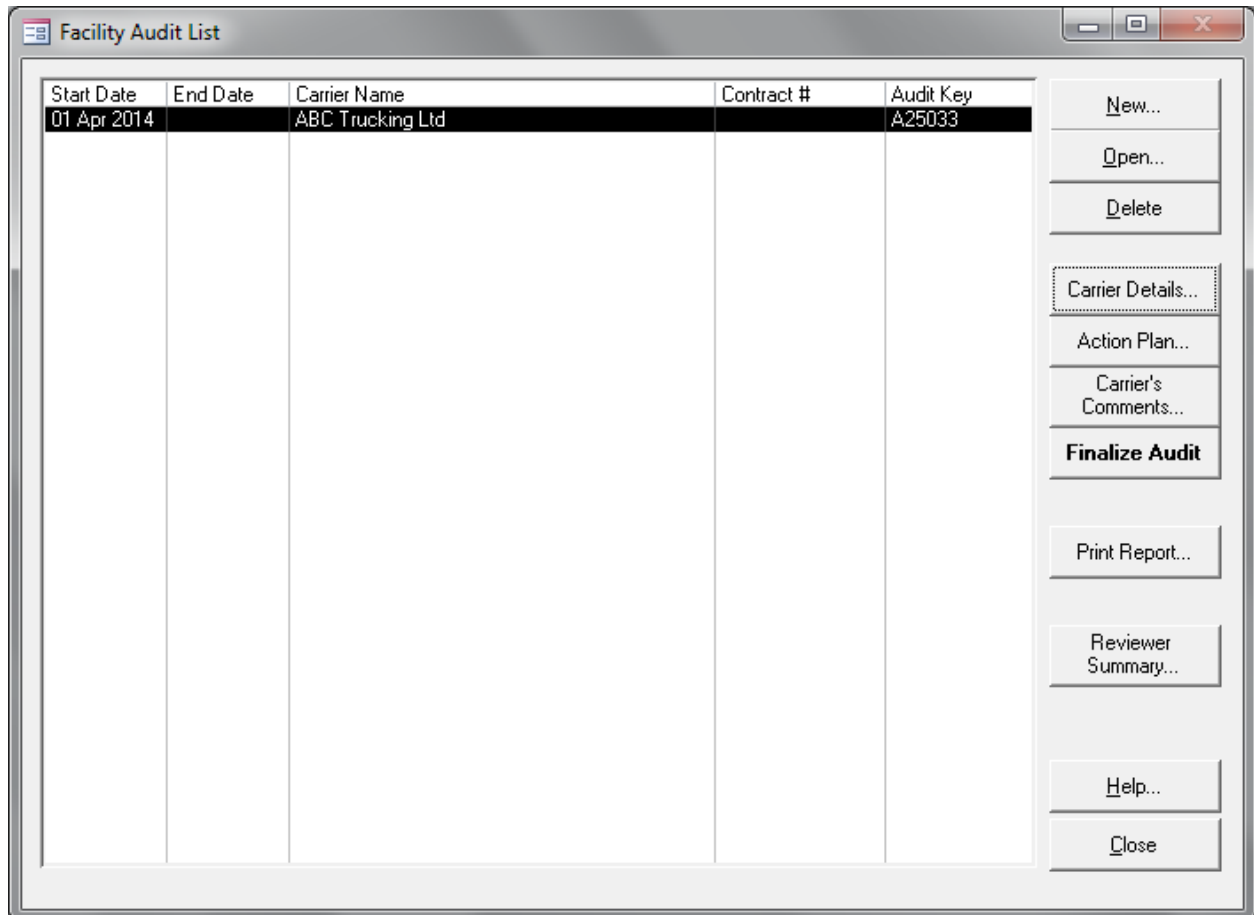
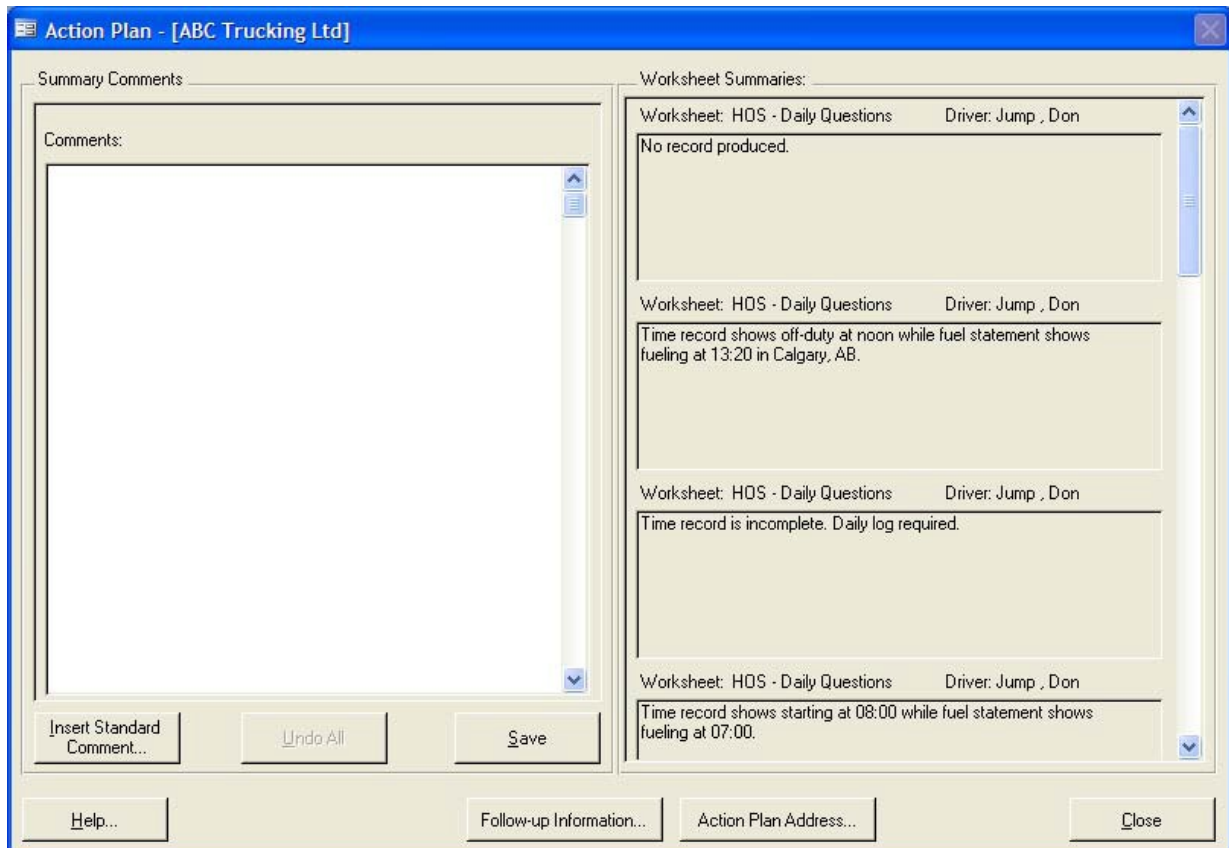
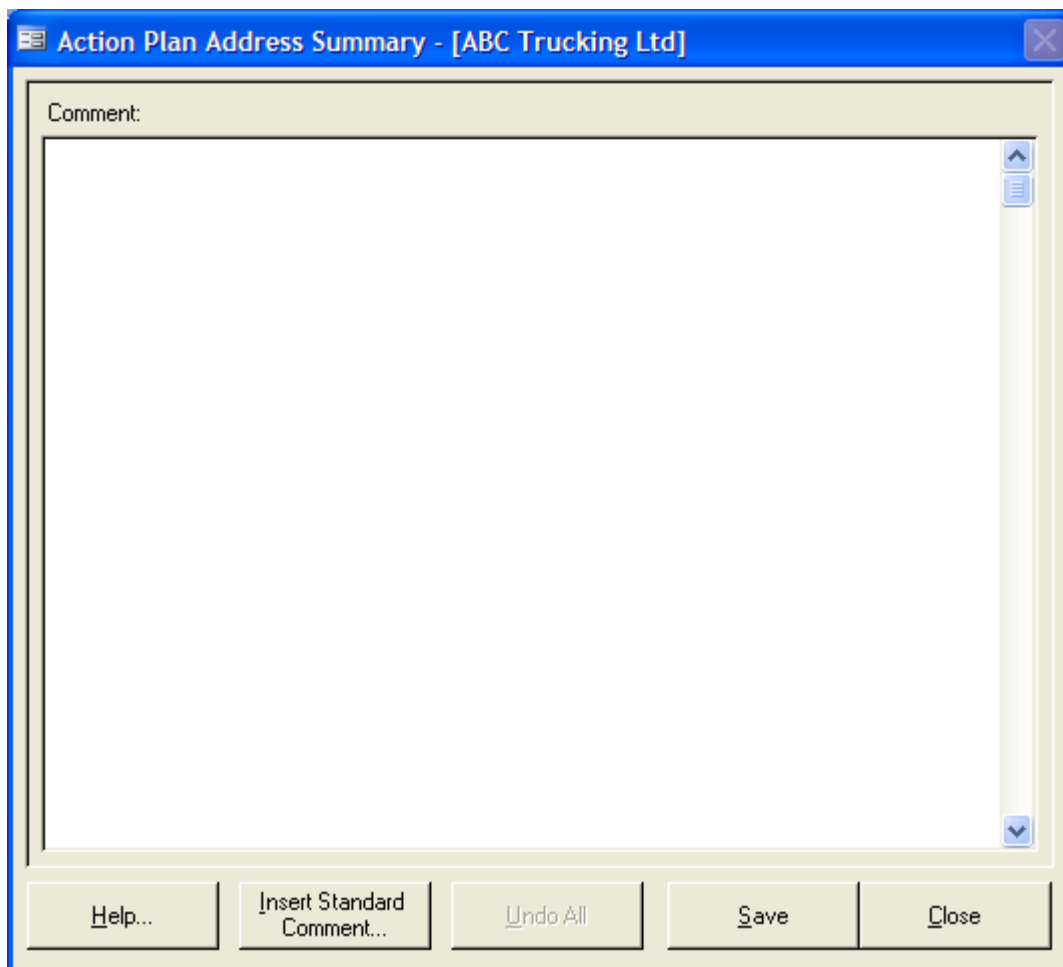
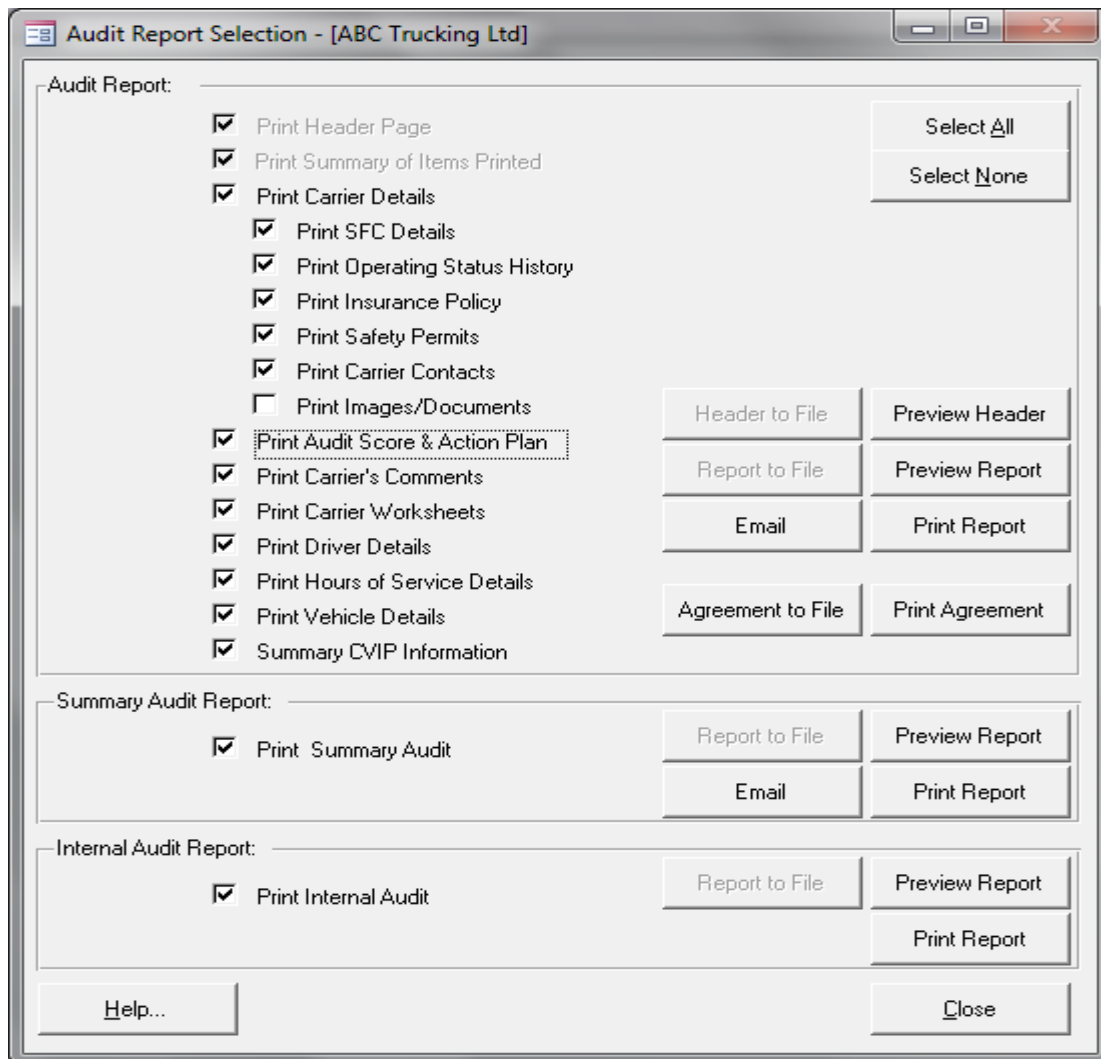

Figure 6: Facility Audit List Screen
Figure 7: Action Plan Window
Figure 8: Action Plan Address Summary Screen
Figure 11: Audit Report Selection
6. Select Close to return to the Facility Audit List screen (Figure 6) as shown below.
1. Select the “Action” button located on the right hand side of the Facility Audit List screen (Figure 6). You should see the Action Plan screen (Figure 7).
4. The name and address to where the Carrier can send follow-up information can be accessed by selecting the “Action Plan Address” button (Figure 8). **Note:** *This Action Plan information does NOT affect the final audit score.*
5. Select Save and then Close to return to the previous “Action Plan” window (Figure 7).
1. Select the “Follow-up Information” button located on the bottom of the “Action Plan” screen (Figure 7). You should see the “Follow-Up Information” screen (Figure 9).
3. Select Save and then Close to return to the previous Action Plan screen (Figure 7).
4. Go back to the “Facility Audit List” screen (Figure 6) by closing the “Action Plan Screen” (Figure 8) and select the “Carrier’s Comments” button. This option
5. Go back to the “Facility Audit List” screen (Figure 6) by closing the “Action Plan Screen” (Figure 8) and select the “Carrier’s Comments” button. This option primarily applies when the audit is being conducted by a contractor or by Alberta Transportation’s auditors.
1. Select the “Carrier’s Comments” button located on the right hand side of the *Facility Audit List* screen (Figure 6). You should see the “Carrier’s Comments” screen (Figure 10 next page).
2. Once the data has been entered, Save and Close all screens and go back to the *Facility Audit List* screen (Figure 6).
1. When you believe the audit has been completed, select the “Finalize Audit” button (on Figure 6: “Facility Audit List Screen”) to test if all the required data has been entered and, if so, to calculate the final audit score.
1. To print an audit report from the “Facility Audit List” window (Figure 6), select the “Print Report” button. You should see the “Audit Report Selection” screen (Figure 11 next page).